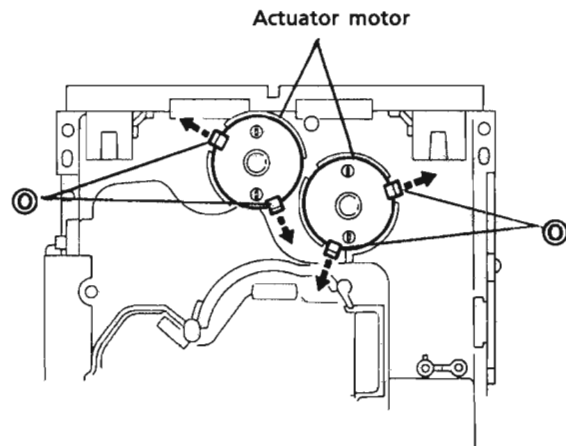

Fig. 39
5. Reverse the chassis ass'y and widen 4 pawls (O) which secure both actuator motors to its arrows to remove the actuator motors. (See Fig. 39.)